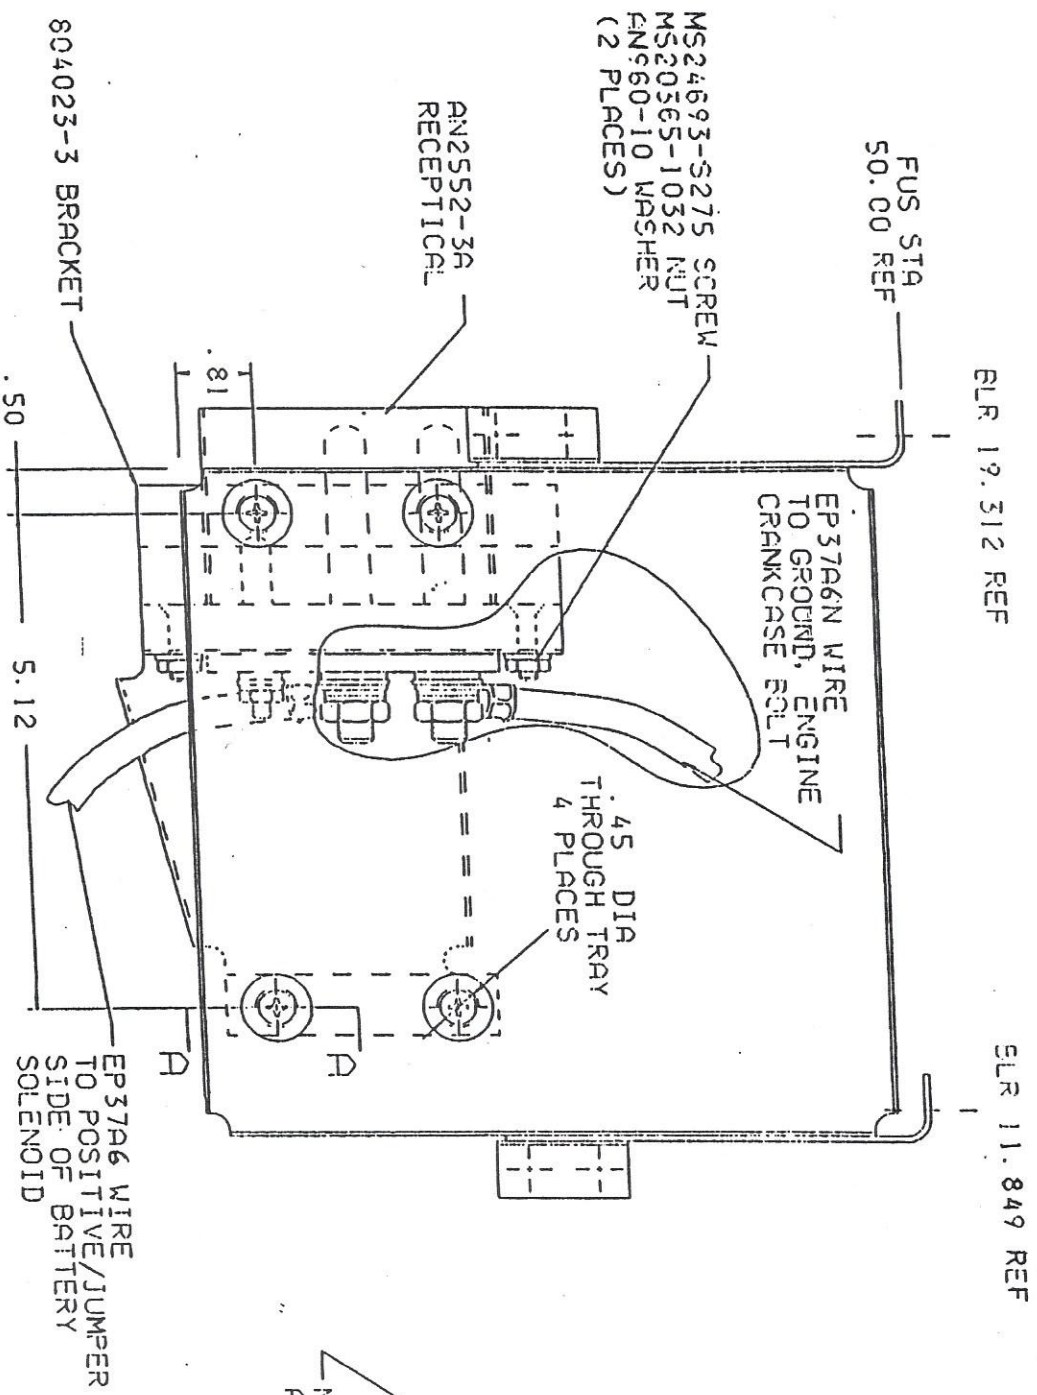

FIGURE 3
- B-2 Locate the 804023-3 bracket on the top of the battery tray as shown in Figure 3 and match drill the tray. Remove the bracket and open the holes in the tray to .450 diameter.
- B-7 Attach the AN2552-3A recepticle to the 804023-3 bracket using the hardware called out in Figure 3. Attach the 4508-1 tape strips to the top of the battery tray to cover the screws and washers.
- B-8 Attach the 804023-3 bracket to the bottom of the battery tray as shown in Figure 3. Reattach the battery tray to the firewall.
- B-9 Wire the plug as shown in Figure 3. The MS25171-3S nipple should be installed so that it covers the positive terminal on the AN2552-3A receptical.